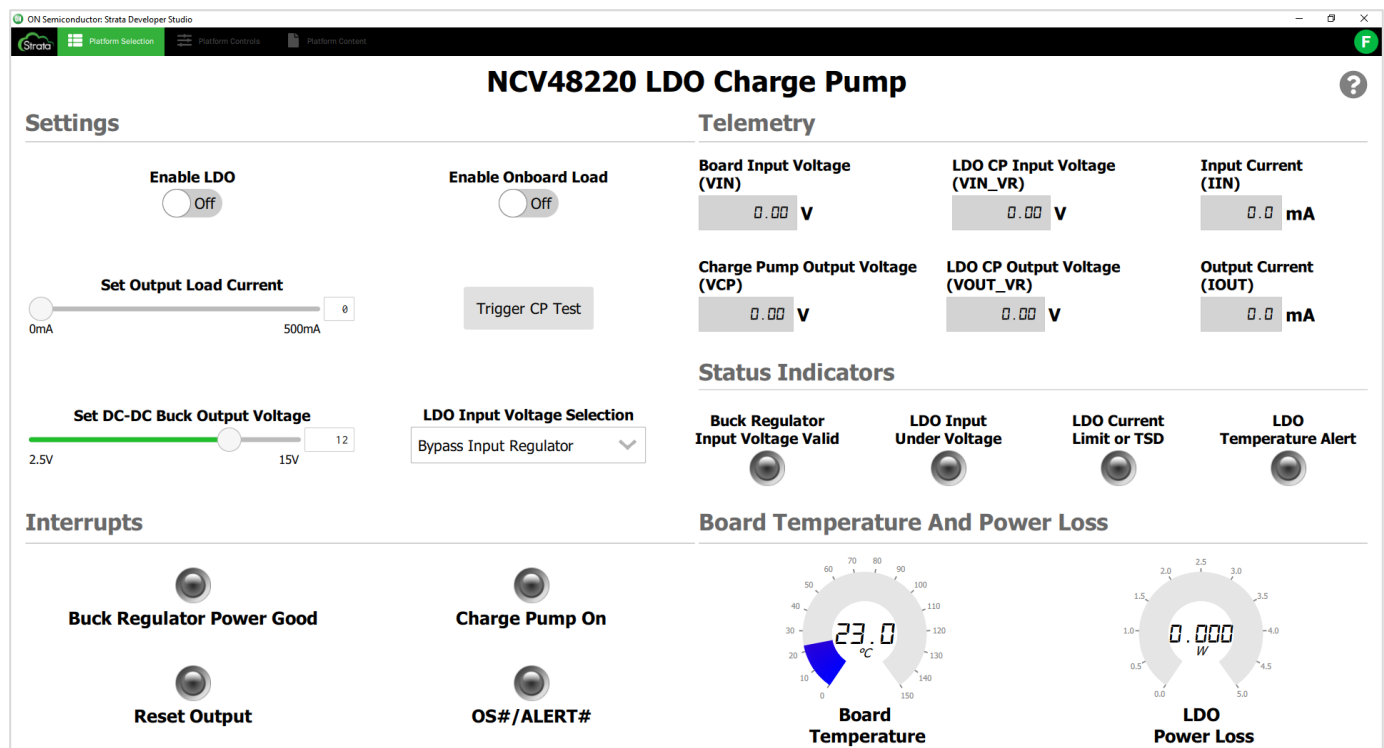

Figure 3: Basic UI view
3. The main view that comes up (shown in Figure 3) offers basic telemetry, enable switches for enabling/disabling the LDO and onboard load, sliders for adjusting the onboard load current and input buck regulator output voltage, a drop-down box for selecting the LDO input voltage configuration, and a button for triggering the charge pump test waveform.